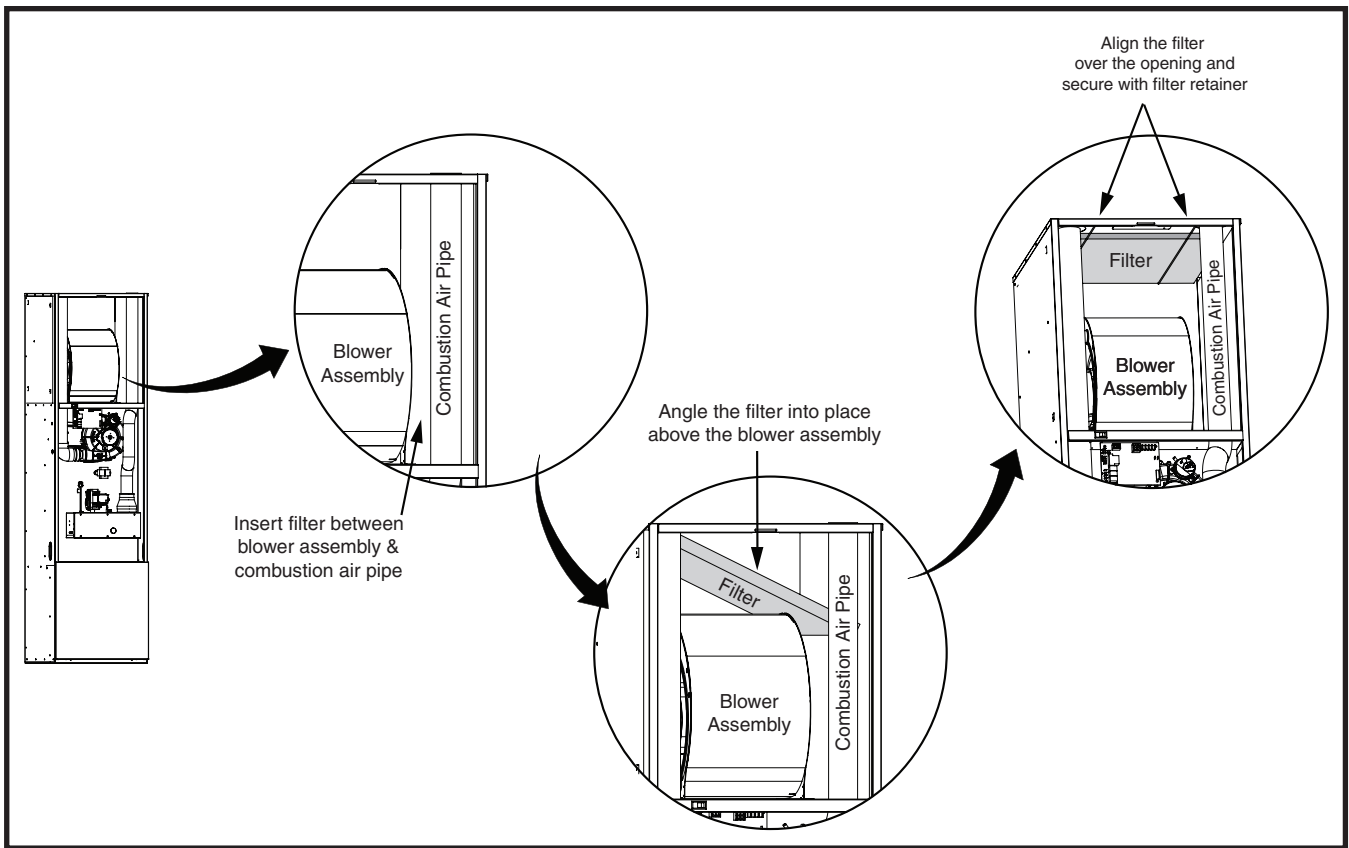

Figure 8. Filter Installation
1. Slide the standard 18" x 18" x 1" filter into the space between the combustion air pipe and the blower assembly. See Figure 8. **NOTE:** Make sure the airflow arrows on the filter point towards the blower assembly.